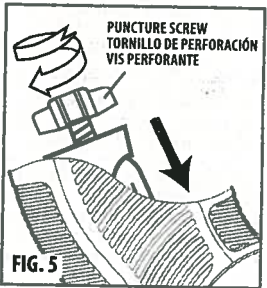

FIG. 5
5. While continuing to hold gun in an inverted position, point the muzzle in a safe direction and turn the puncture screw clockwise to puncture the CO2 cylinder. (Fig. 5) Continue turning the screw RAPIDLY until finger tight.